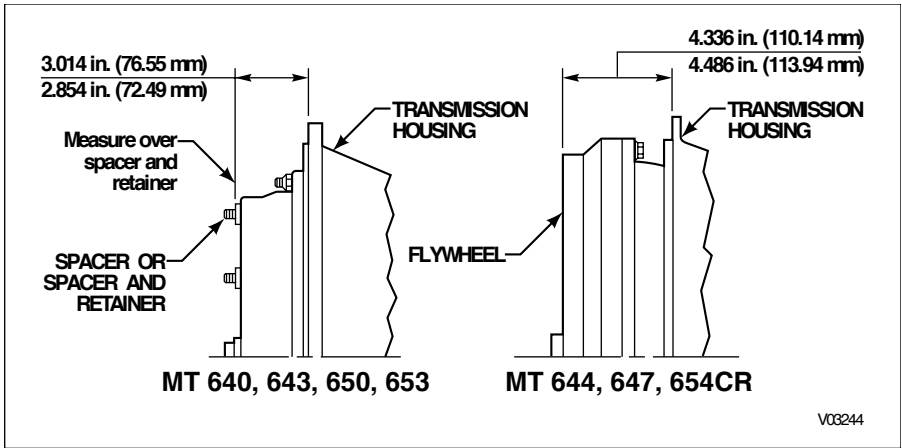

Figure 3-1. Converter Position Measurements
- To determine that there will be ample clearance for positioning the torque converter, measure as indicated in Figure 3-1. Check the results against the following dimensions: